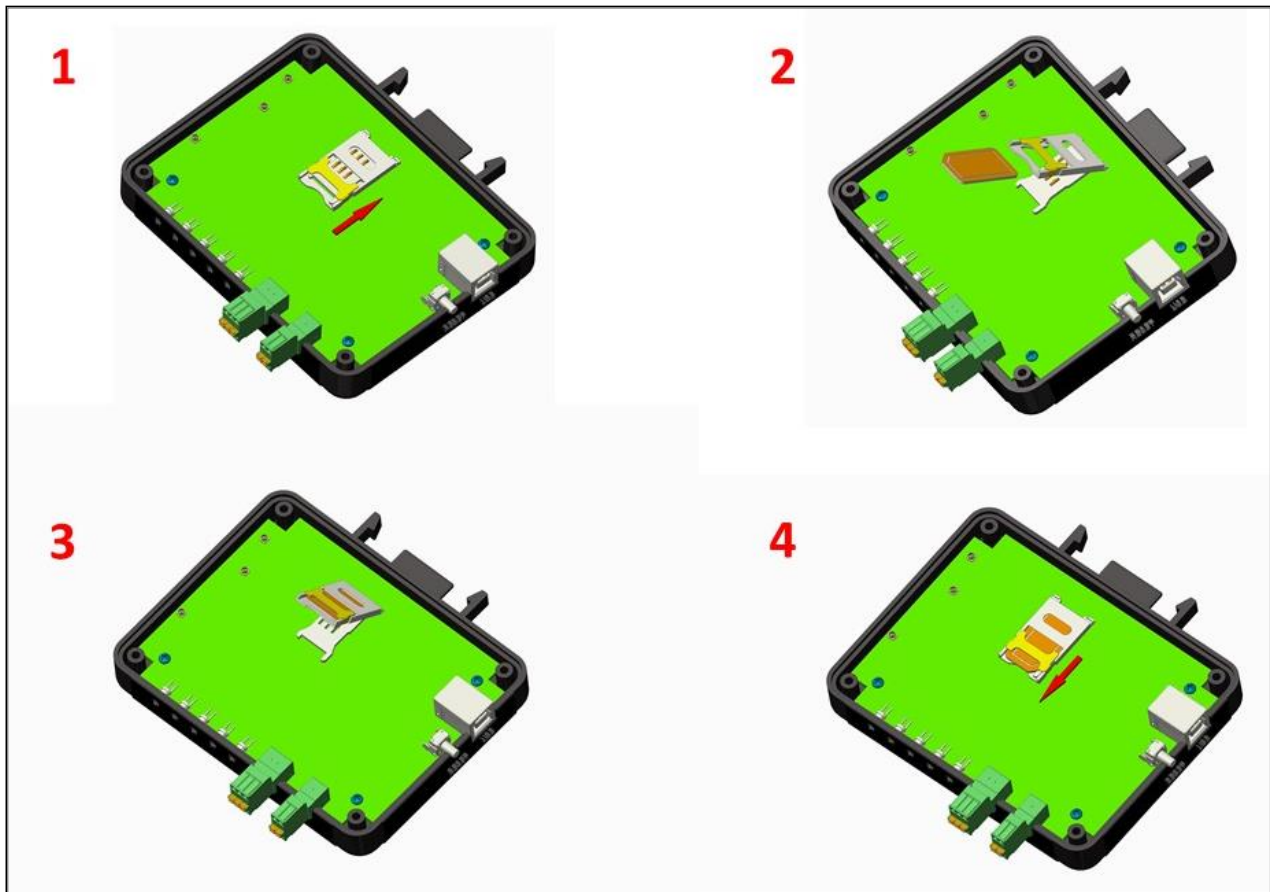

Figure 10: SIM card Installation
- Slide the metal strip in the direction shown in “1” Figure 10 and open the SIM card holder.
- “2” Shows the opened SIM card holder. Insert the standard size SIM card in between the cavity of the metal strip and SIM card holder as shown in “3” Figure 10.
- Close the SIM card holder and slide the metal strip in the direction as shown in “4” Figure 10 to lock.